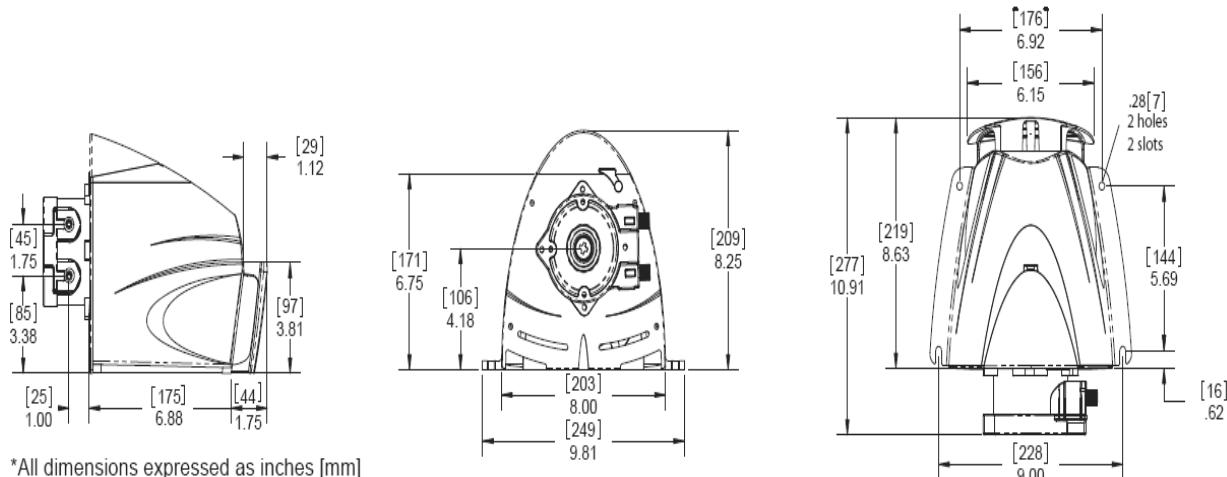
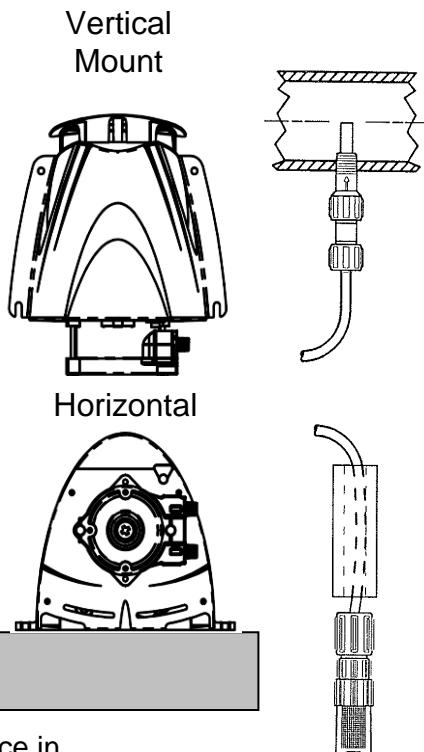

Figure 1: Pump Dimensions
Figure 2: Injector Placement
1) The pump can be installed either vertically or horizontally (See Figure 2). Make sure to secure the pump on a flat level surface that will support 50-lbs (22kg) and secure with four .25-in (6mm) screws in the holes provided. The guard snaps into the back of the pump via three tangs - see Figure 1. The pump should be mounted with no less than 1.75-in (44mm) of clearance around the venting on both the front and the rear of the pump. Locate the pump so there is direct access to the power cord plug.
- 3) Relieve the system pressure and drain the piping run where the injection fitting is to be installed. See Figure 2 for reference. **The injection fitting must not be installed in a dead end pipe or a deeply recessed tee. It should be installed so as to place the tip at the center of the fluid stream as indicated in Figure 2.** The injection fitting is supplied with .25-in NPT threads. If necessary drill a .44-in (11mm) diameter hole and using care not to tap too deeply, tap for .25-in NPT.